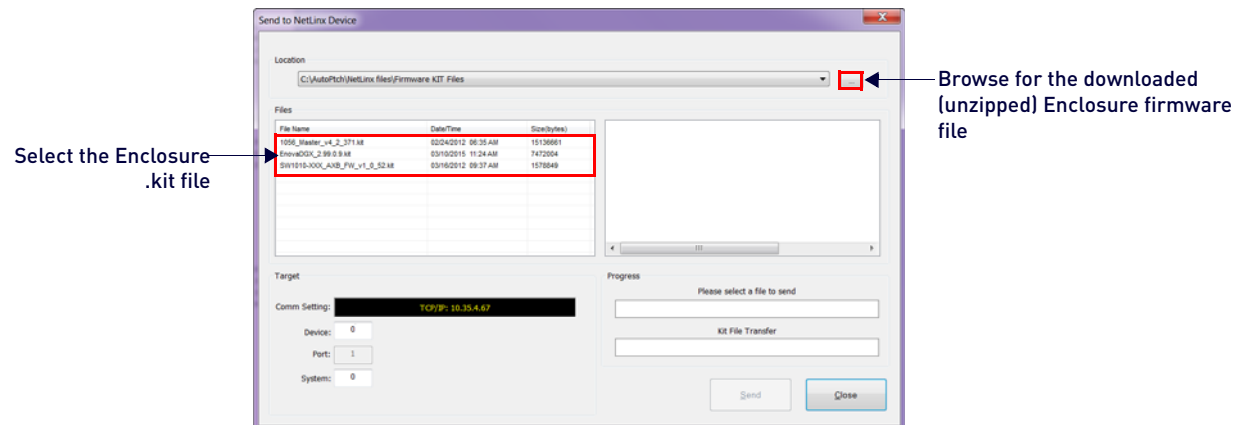

FIG. 150 NetLinx Studio - Send to NetLinx Device dialog
9. Click the Browse (...) button to navigate to the target directory (FIG. 150):